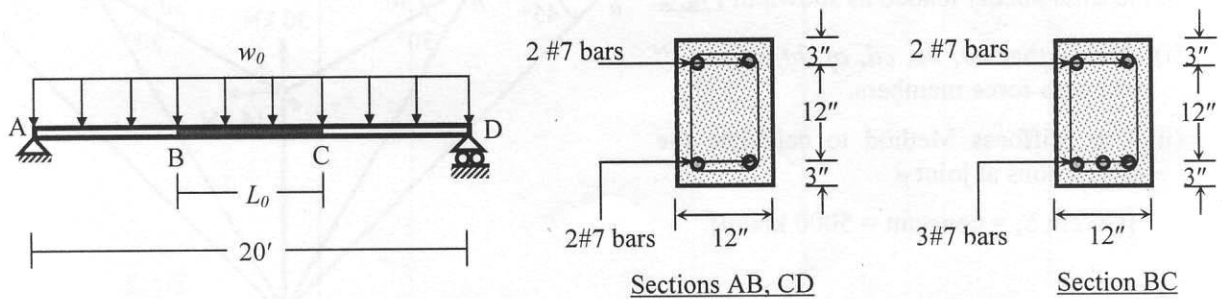

Fig. 6
9. Use bending moment diagram to calculate the distributed load w_0 required to develop plastic hinge mechanism in the reinforced concrete beam ABCD loaded as shown in Fig. 6 if